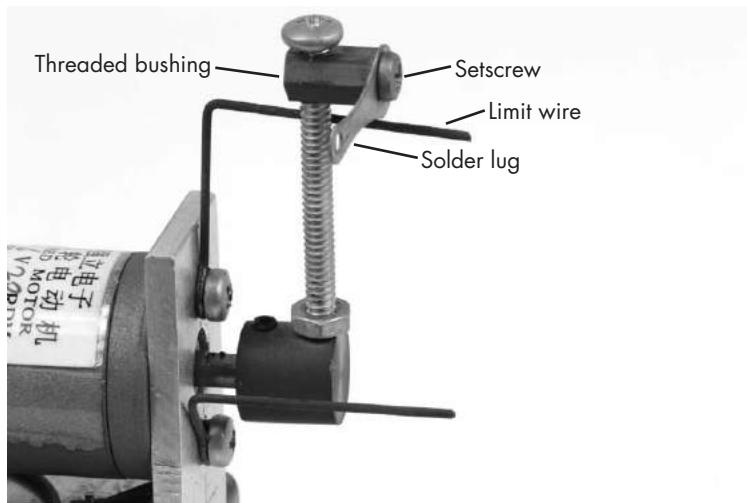

Figure 2-18: A photograph detailing the head of the crank. Note the solder lug used to hold the wire and the alligator stop clip on the left side.
2. In the bushing, perpendicular to the motor shaft hole, use a #36 drill to drill a hole. Then, tap the hole you drilled so a long 6-32 screw can serve double duty as a setscrew and crank. You can also use a separate setscrew to move the crank farther from the motor, as I did in Figure 2-18.
3. Thread the crank screw into the bushing so it bears tightly against the motor shaft, and use a locking nut to hold the screw in place (see Figure 2-18).
5. Take an M3 × 0.5 mm machine screw and put it through the solder lug (see Figure 2-19 for the lug itself and Figure 2-18 for the lug in place). Screw it into the standoff all the way so it binds on the crank screw.